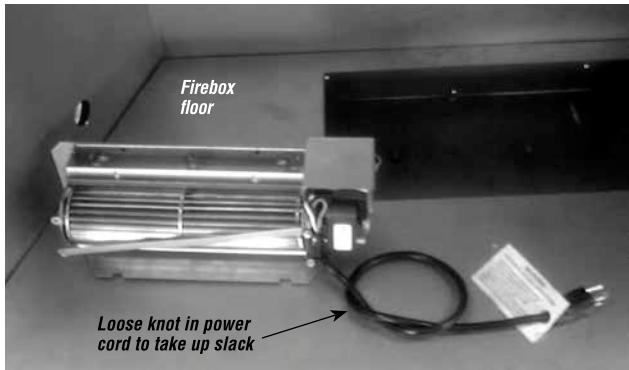

Figure 19
Step 3. Loosely tie a knot in the power cord to take up slack (see **Figure 19**).